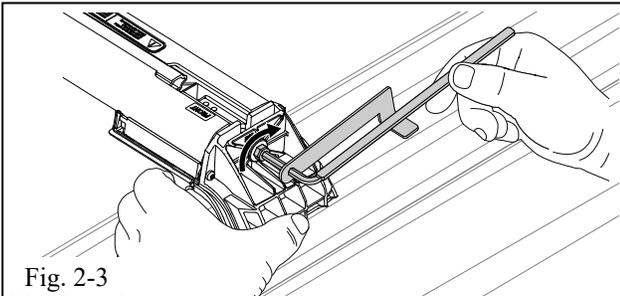
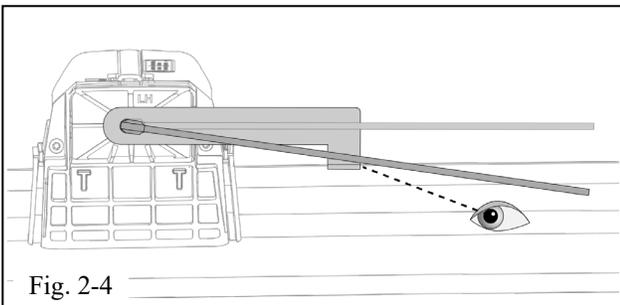

Fig. 2-3
Fig. 2-4
- (b) Use one hand to hold the clamp closed as you tighten the bolt. Using a VDC approved wrench or provided torque wrench, tighten the bolt until the wrench indicates 14 Nm of torque. (Fig. 2-3). If using supplied torque wrench, the bolt is fully torqued when the metal handle touches the torque indicator as shown. (Fig. 2-4).